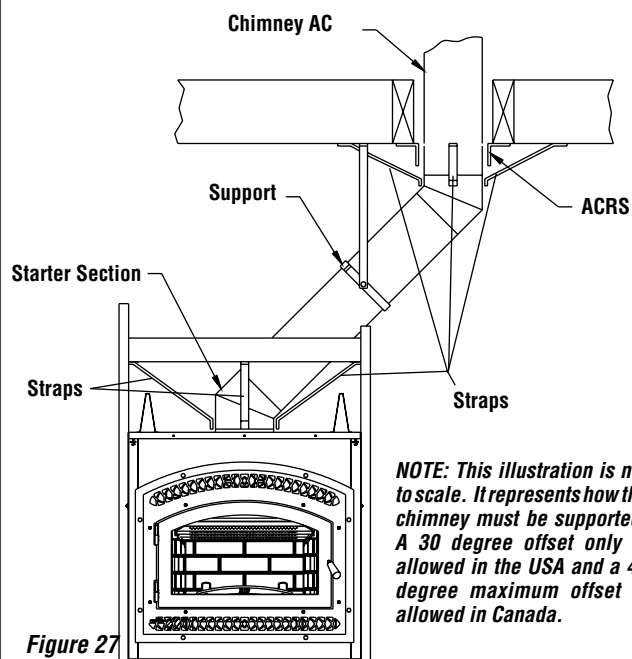

Figure 27
1. Install the first elbow; turn it in the required direction. Fasten it to the chimney with the three (3) 1/2" (12 mm) metal screws provided with the elbow.
2. Install the necessary chimney lengths to achieve the required offset. Lock the chimney lengths together: it is recommended to use three (3) 1/2" (12 mm) screws. If the offset length is made of two (2) chimney lengths or more, use an offset or roof support halfway up the offset. If penetrating a wall, install a wall radiation shield (see **Figures 27 and 29**).
3. Use another elbow to turn the chimney vertically. Secure the elbow, using three (3) 1/2" (12 mm) screws (provided with the elbow).
1. Install the first elbow. Turn it in the required direction. To lock it in place, turn 1/8 of a turn. Fasten the straps attached to the elbow to the surrounding frame, using nails or drywall screws (see **Figure 27**).